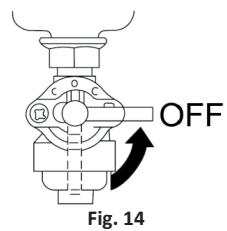

Fig. 14
### - Normal stop (Fig. 14)
3. Turn the fuel cock lever to the "OFF" position. (Fig. 14)